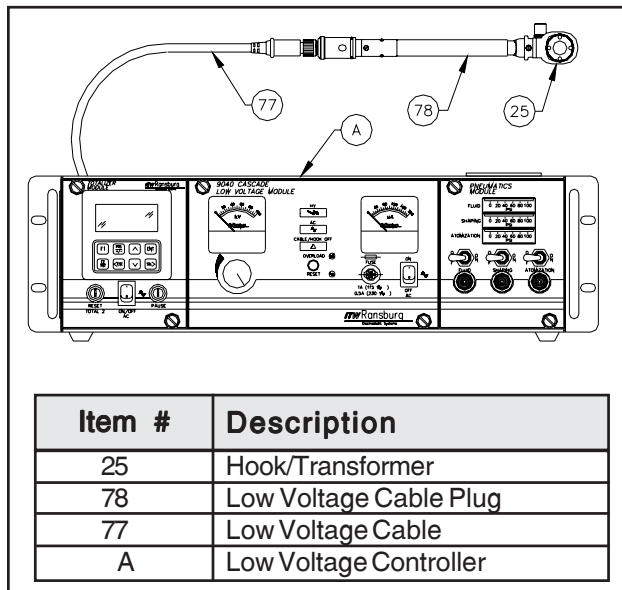

Figure 16: Hook/Transformer Test Setup Diagram
2. Connect the low voltage cable to a control unit and a cable plug assembly (refer to Figure 16).